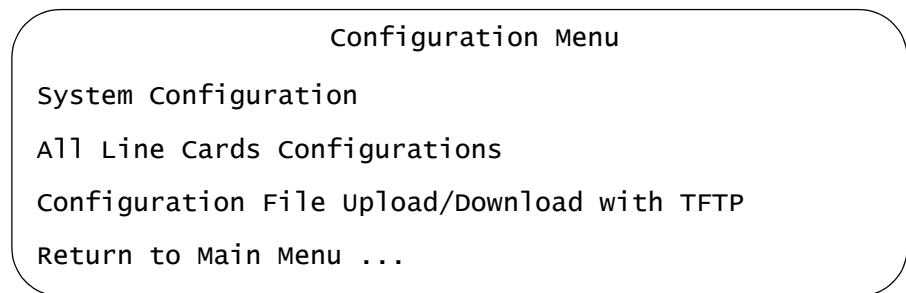

Figure 26. Configuration Menu
1. From the Main Menu, select **Configuration** to display the Configuration Menu shown in Figure 26.
1. From the Main Menu, select **Configuration** to display the Configuration Menu shown in Figure 26 on page 100.